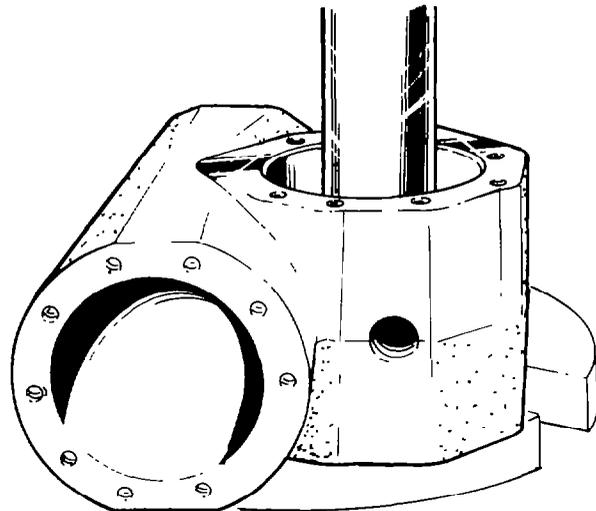

Figure 283 — Gear Housing Bush — Installation
- Using a suitable press, install the bronze bush in the main housing until the bush is flush with the face of the housing (see Fig. 283).